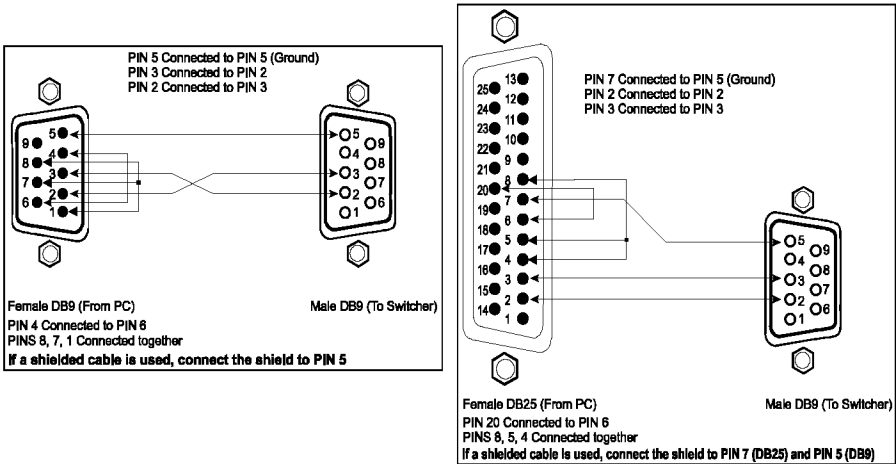

Figure 6: Connecting a PC without using a Null-modem Adapter
- Connect the RS-232 IN DB9 port on your PC to the RS-232 DB9 rear panel port on the **VP-81xl**, **VP-161xl**, or **VP-321xl** unit, as Figure 6 illustrates (depending on whether the PC has a 9-pin or 25-pin connector)